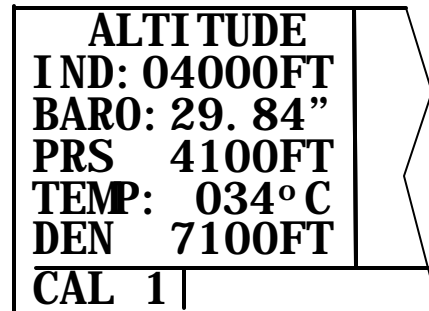

Figure 3D-96. CAL 1 page
5. Use the left outer knob to move the cursor to the first TEMP position, and then enter the outside air temperature (in °C) by using the left inner and outer knobs. The first digit of the temperature is either zero if the temperature is above zero or a minus (-) if the temperature is below zero. For maximum accuracy, the static air temperature should be entered. This is the temperature of the air without the effect of heating due to movement through the air. The density altitude (DEN) is now displayed as illustrated in Figure 3D-96.